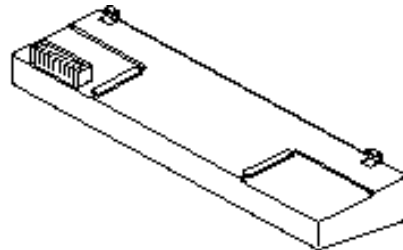

Figure 1-3 External Smart Lithium ion Battery
- External Smart Lithium ion battery (located in the accessories box). (Figure 1-3.)